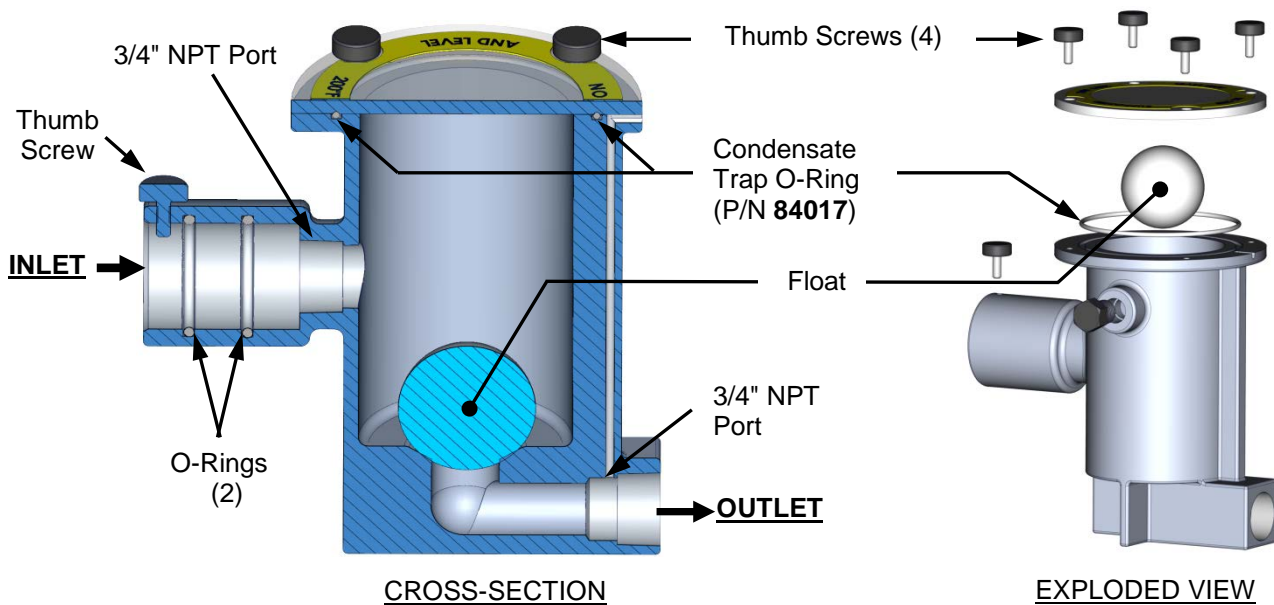

Figure 7-10: External Condensate Trap: Cross-Section & Exploded View
1. Disconnect the external condensate trap by loosening and then removing connections on the inlet and outlet sides of the condensate trap (see Figure 7-10).
2. Loosen the four (4) thumbscrews securing the trap's cover and then remove the cover and the O-ring from under the cover.